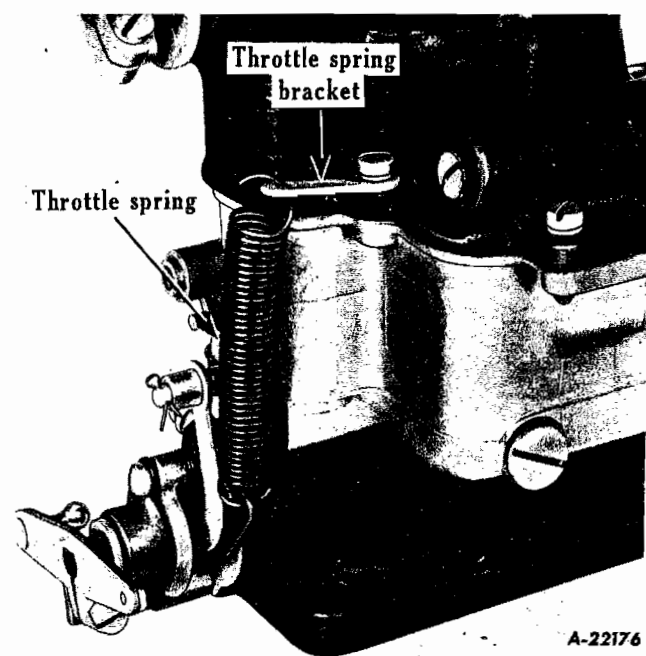

Fig. 67
21. Assemble air horn to main body. Recheck the float setting using gauge. Holding assembly gasket in place assembly air horn to main body and tighten all screws tight. Be sure throttle lever spring bracket is installed in correct position at accelerating pump chamber. See Fig. 67. Place assembly to one side being careful not to damage accelerating pump operating rod.